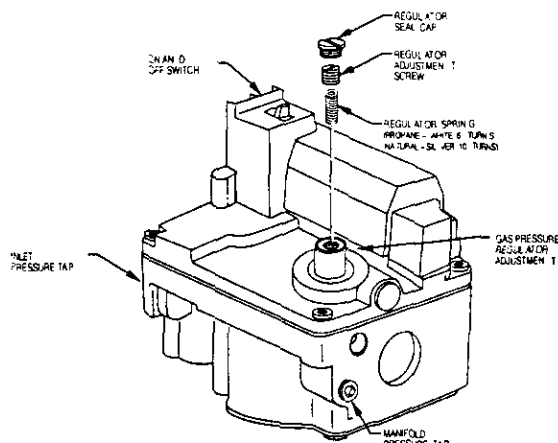

Fig. 15A - Single Stage Gas A01073
2. Remove regulator seal cap. (See Fig. 15A)
2. Remove 1/8-in. pipe plug from manifold pressure tap on downstream side of gas valve. (Fig. 15A or 15B)
3. Attach manometer to manifold pressure tap on gas valve. (See Fig. 15A)